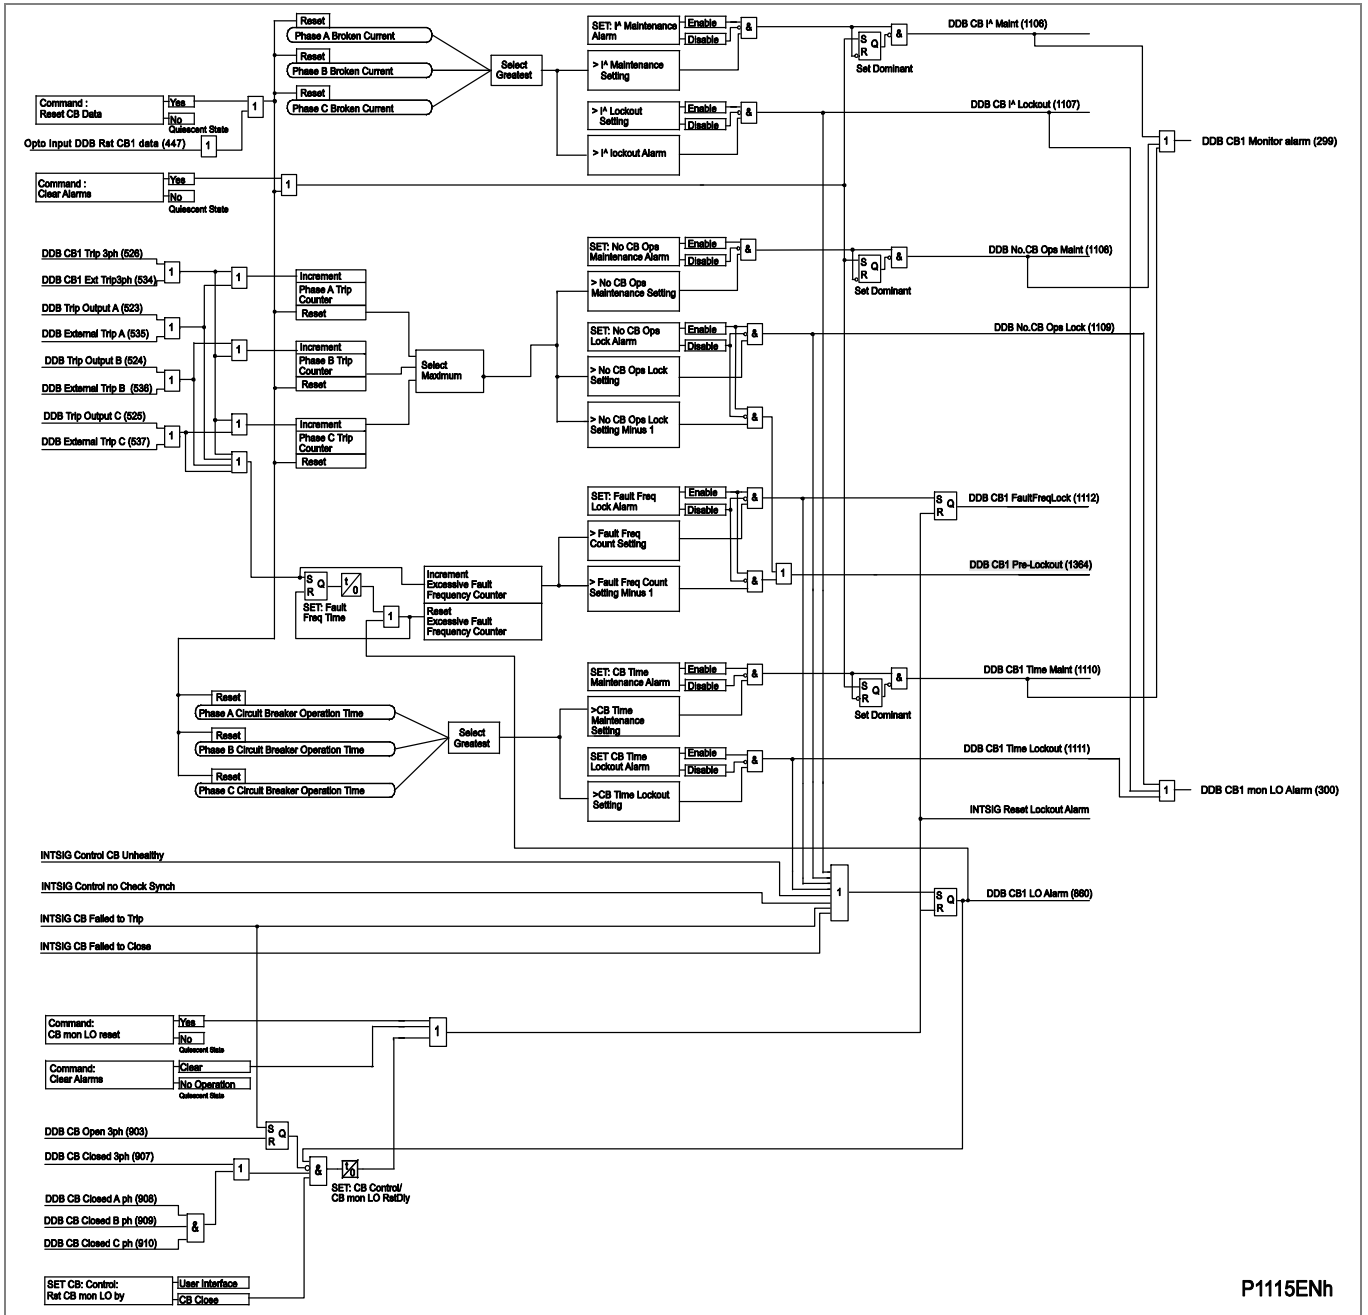

Figure 3 - Circuit breaker monitoring
- Figure 3 - Circuit breaker monitoring